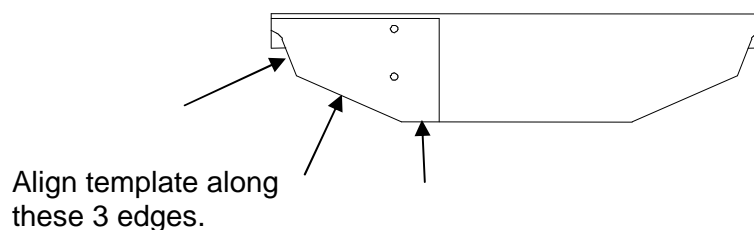

FIGURE 13
- 3.5.8 Locate the position of the mounting holes by aligning the template (P/N 103-5865) on the front face of the floor pan as shown in Figure 13. Clamp the template in place. Using a center punch, mark the positions of the holes on the floor pan. Flip the template over and repeat step one on the other end of the floor pan face.